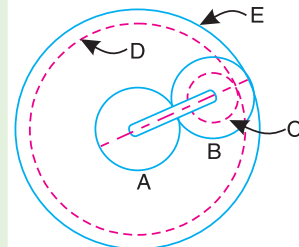

Fig. 13.26
**Example 13.19.** Fig. 13.26 shows an epicyclic gear train. Pinion A has 15 teeth and is rigidly fixed to the motor shaft. The wheel B has 20 teeth and gears with A and also with the annular fixed wheel E. Pinion C has 15 teeth and is integral with B (B, C being a compound gear wheel). Gear C meshes with annular wheel D, which is keyed to the machine shaft. The arm rotates about the same shaft on which A is fixed and carries the compound wheel B, C. If the motor runs at 1000 r.p.m., find the speed of the machine shaft. Find the torque exerted on the machine shaft, if the motor develops a torque of 100 N-m.